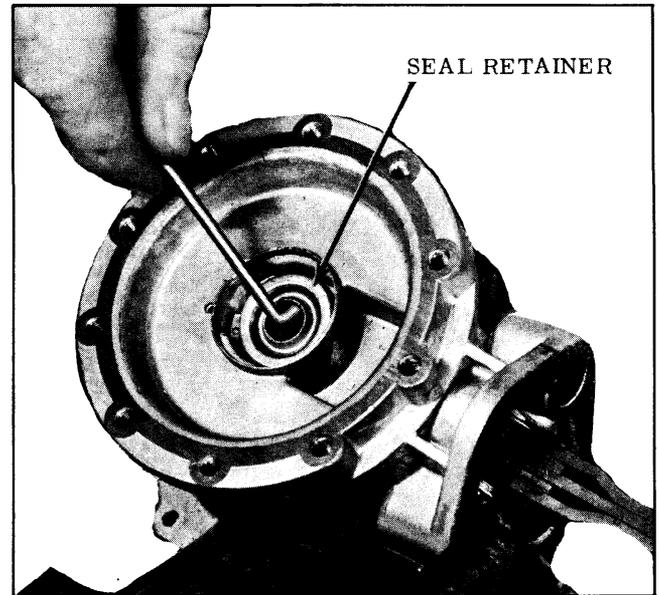

Fig. 8-68 Removing Fuel Seal Retainer
9. Remove pull rod seal by removing staking, and pulling out seal retainer. (See Fig. 8-68)